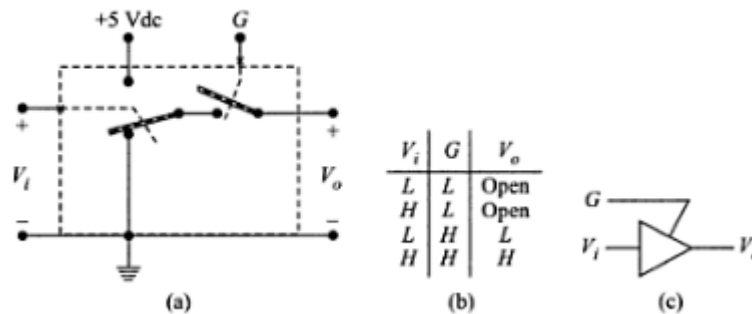

Figure 1.9: A tri-state buffer (a)Model (b)Truth table (c)Symbol
- In Figure: 1.9, when  $G$ =LOW, this switch is open and the output is disconnected from the buffer. When  $G$ =HIGH, the switch is closed and the output follows the input.
- The control signal  $G$  connects the buffer to the load or disconnects buffer from load (Figure: 1.9).